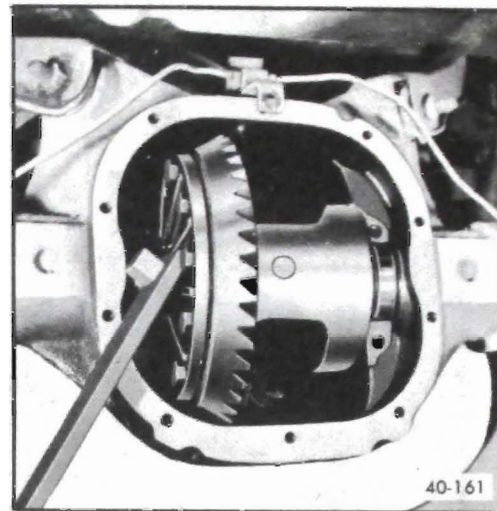

Figure 40-132 - Removing Differential Case Assembly
9. Differential case assembly can now be removed by prying against ring gear bolt using a suitable pry bar. See Figure 40-132.